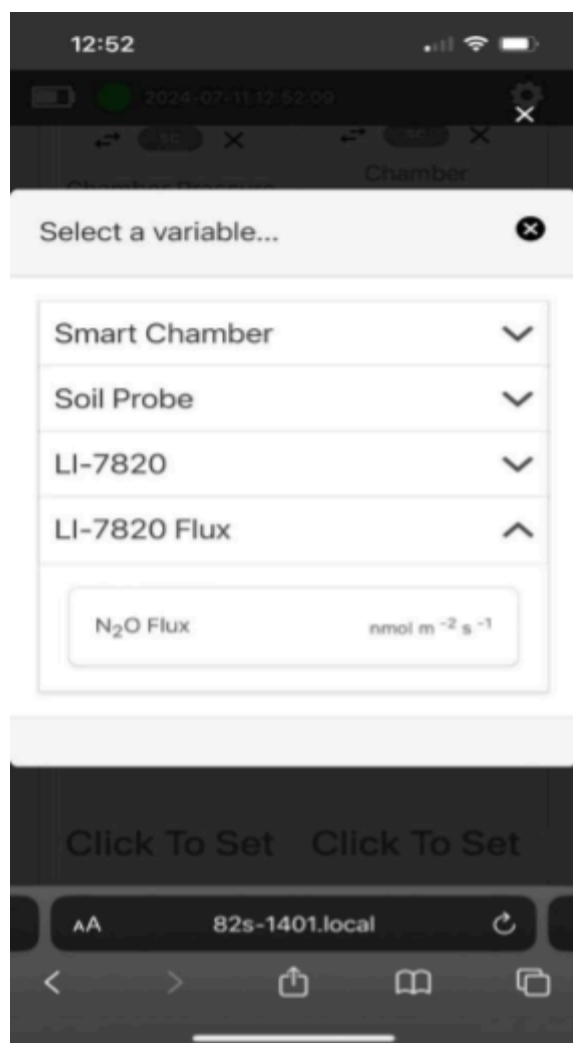

Figure 4: Variable selection screen
12. Choose variable display by selecting the box-displays (Figure 4).